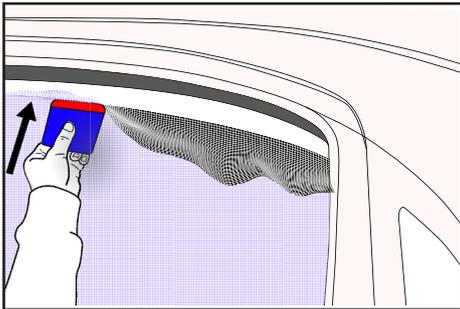

Figure 27
- › Apply the micro-perforated film using the squeegee up to the top of the window. (FIG. 27)